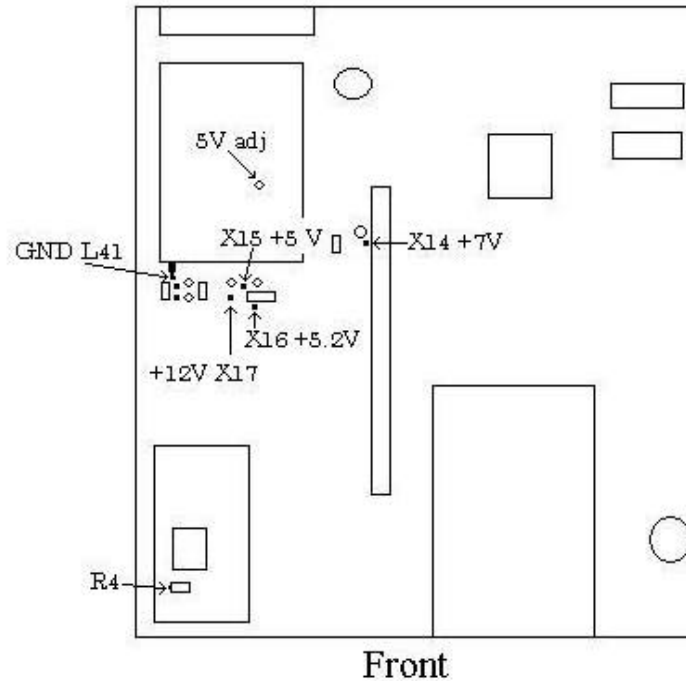

Figure 1. Top view.
(1) Connect time/frequency workstation **OUTPUT 1 MHz** to frequency difference meter **REF INPUT.**
(2) Connect TI **10 MHz OUT** (rear panel) to frequency difference meter **SIG INPUT.**
(3) Adjust R4 (fig. 1) reference adjust for minimum difference indication on frequency difference meter.
(4) Allow at least 24 hours for stabilization. Frequency difference meter indication will remain within 5 parts in  $10^{-10}$ .
(5) Adjust autotransformer output to 105 V and allow 15 minutes for stabilization. Verify that TI oscillator drift is less than 5 parts in  $10^{-10}$ .